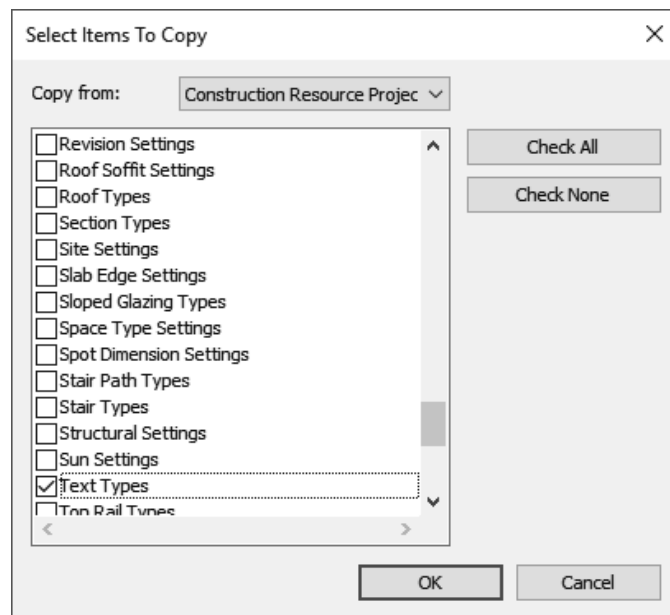

Figure 1–49
5. Click **Check None**, select **Text Types** (as shown in Figure 1–49), and click **OK**.